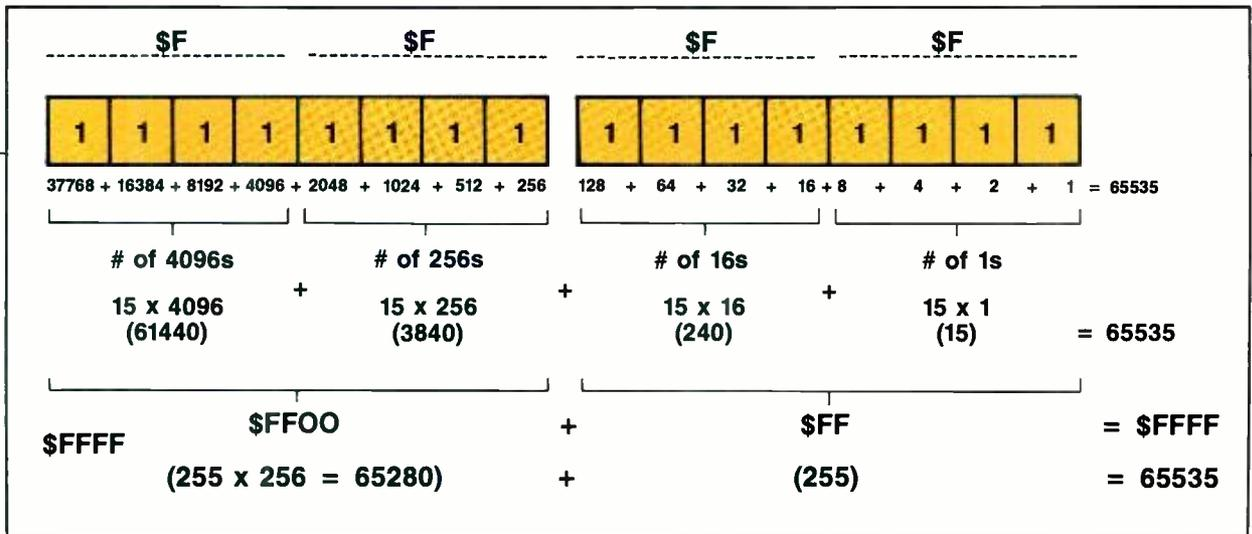

Figure 4. Example shows the value \$FFFF in hexadecimal, decimal and binary notation. Each \$F represents a nibble.
Base 16. In hex, the number above \$FF (255) is \$100 (256) with the new place value representing the number of 256's. The number above \$FFF (4095) is \$1000 (4096) with the new place value indicating the number of 4096's. The LSB represents the number of ones and the MSB taken as a whole represents the number of 256's. Given binary, decimal or hexadecimal there are many ways to calculate byte values, but as the following diagram illustrates, the answer is the same. (See Figure 4.)